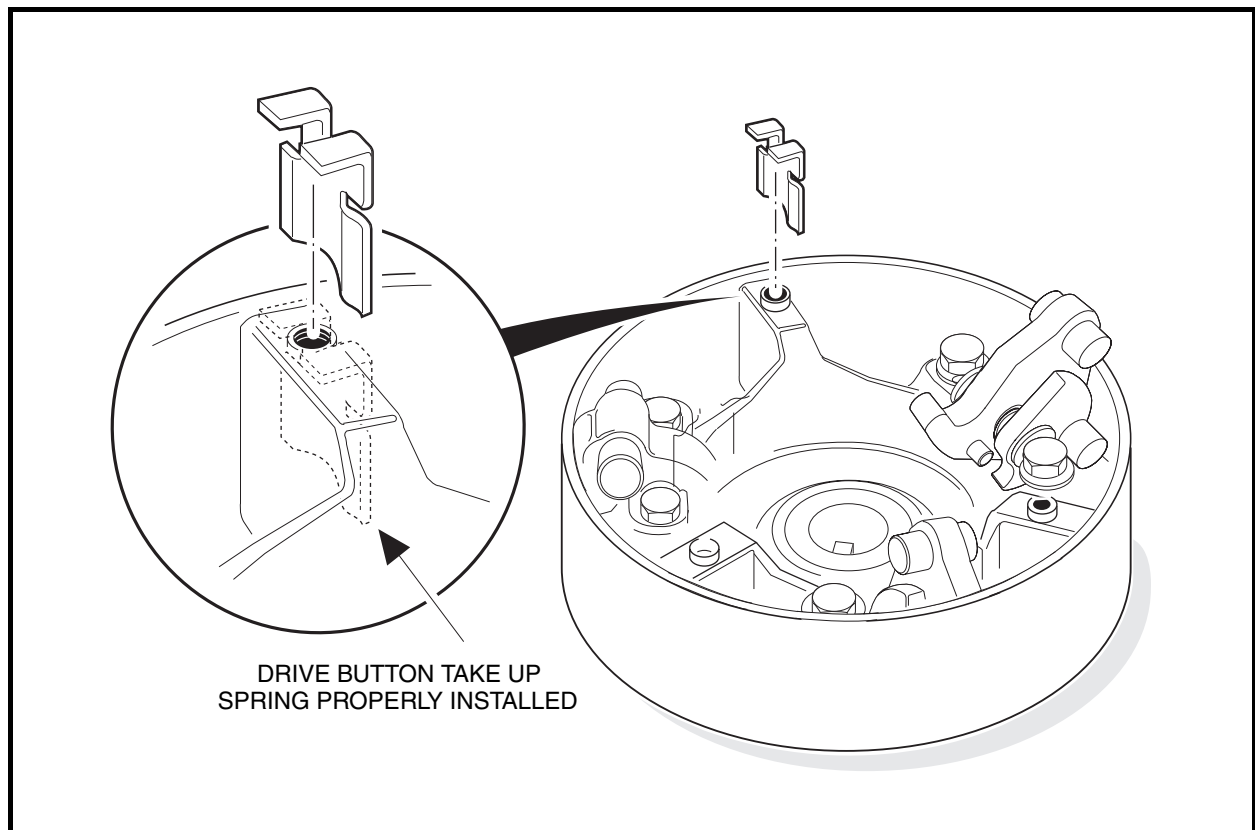

Figure 20-15 Correct Orientation of Drive Button Take-up Springs
- 13.1. Install each spring on right-hand side of the three button mounting posts (when looking into the interior of the clutch drive hub, and with the rib at a twelve o'clock position) as shown (**Figure 20-15, Page 20-11**).